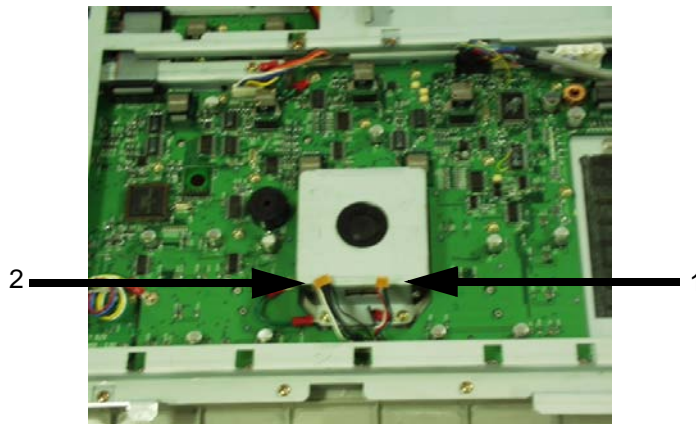

Figure 8-37 Disconnect two connectors
- 1.) Disconnect two connectors (1-2) from the Trackball Assy. Refer to Figure 8-37.